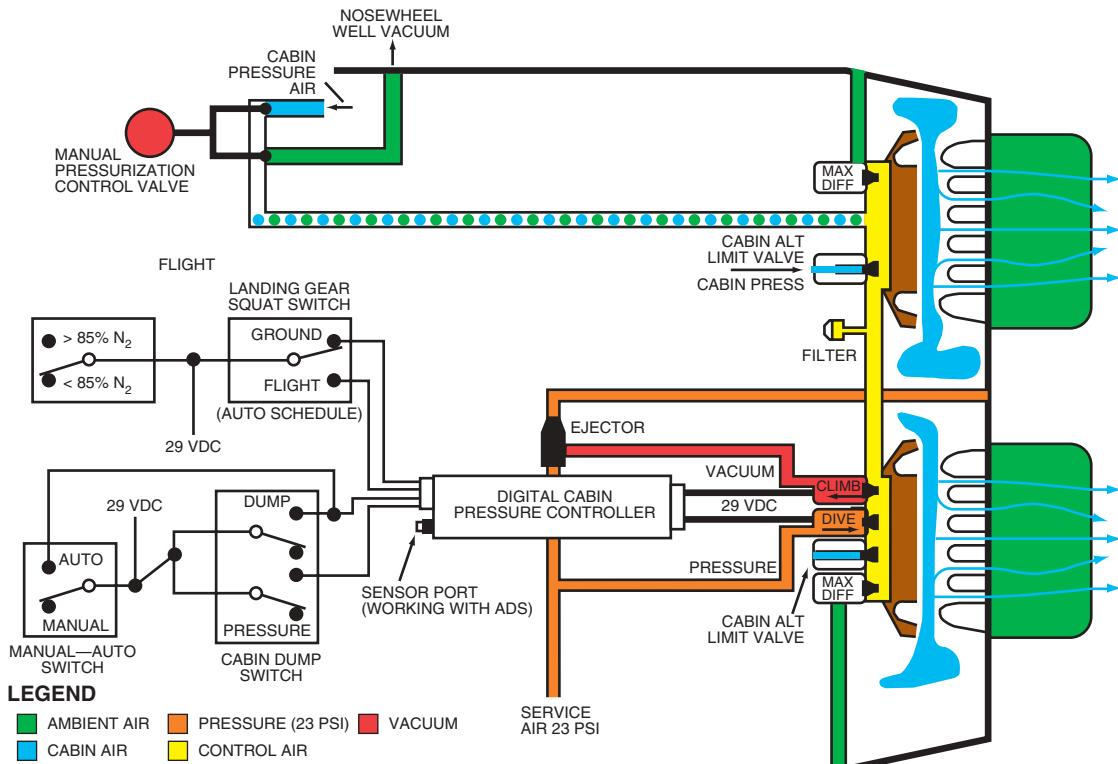

Figure SR-32 Pressurization System Diagram
- The bottle pressure green arc is marked from 1,600 to 1,800 psi; this does not ensure oxygen availability to the crew (Figure SR-32).